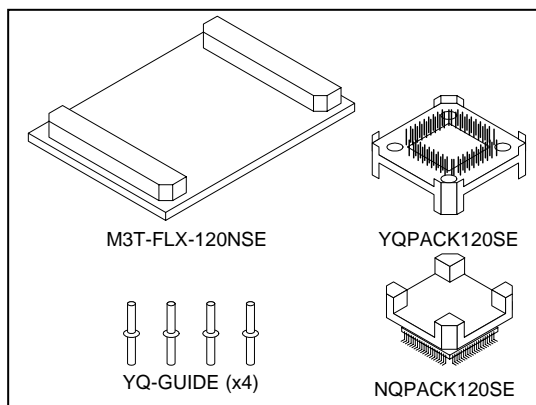

Figure 1 Package components of the M3T-FLX-120NSE
2. Package Components (See Figure 1)